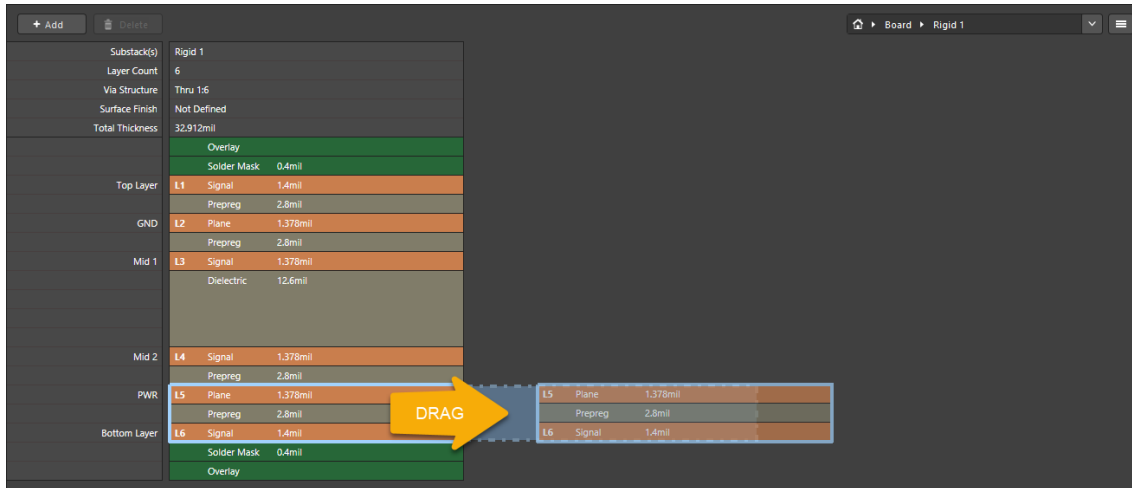

Figure 11. Adding a new Layer Stackup
30. Next, you will add a new Flex Layer Stackup, as seen in Figure 11: